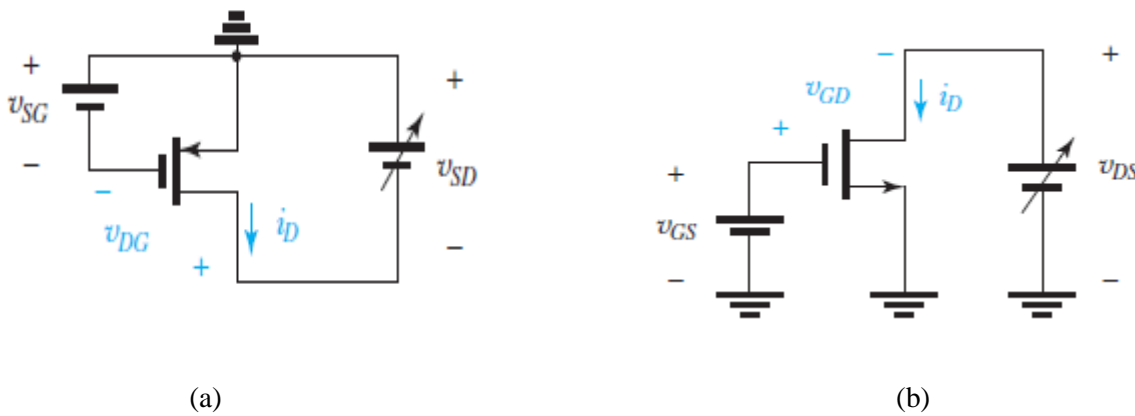

Figure 5: Circuit for drawing $i_D - v_{DS}$ curve for (a) PMOS and (b) NMOS
5. Connect the circuit as shown in fig. 5(a) for PMOS and fig. 5(b) for NMOS.